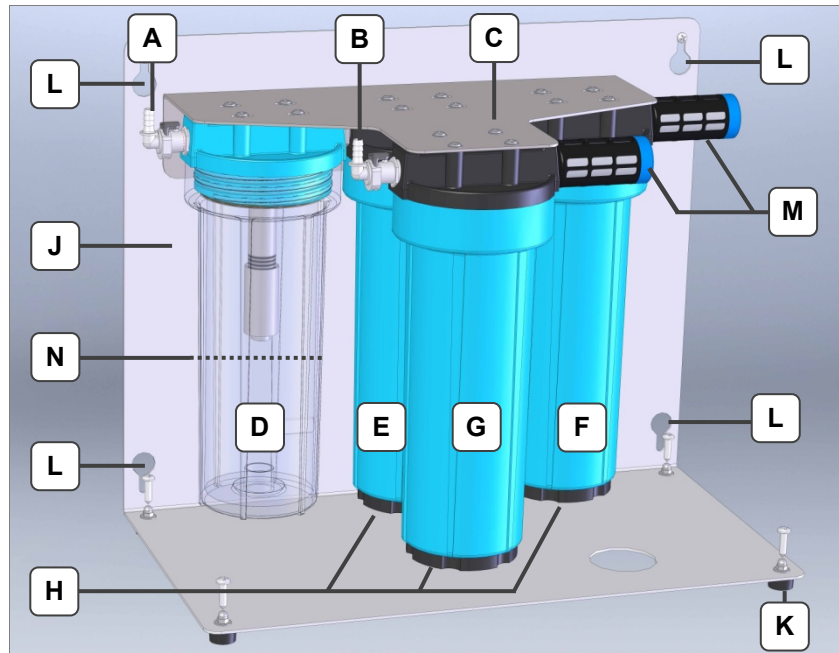

Fig. 14.1.1 Upright activated carbon unit
Interval After view, at the latest if the filling level of the separated solvent has risen to approx. 20 mm below the filter in the condensate separator (*Fig. 14.1.1.N*).
- Detach the retaining plate (C) from the base plate (J).
- Open the screw plugs (*Fig. 14.1.1.H*) of the activated carbon cartridges one after the other.